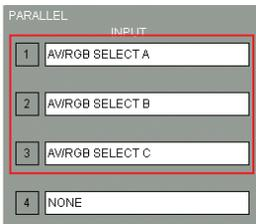

Fig. 8 Setting of the PARALLEL REMOTE
2. Select AV/RGB SELECT A on the PARALLEL/PROJECTOR CONTROL screen. This selection appears on a drop-down list on INPUT 1. Select AV/RGB SELECT B on the PARALLEL/PROJECTOR CONTROL screen. This selection appears on a drop-down list on INPUT 2. And then select AV/RGB SELECT C on the PARALLEL/PROJECTOR CONTROL screen. This selection appears on a drop-down list on INPUT 3 (Fig. 8).